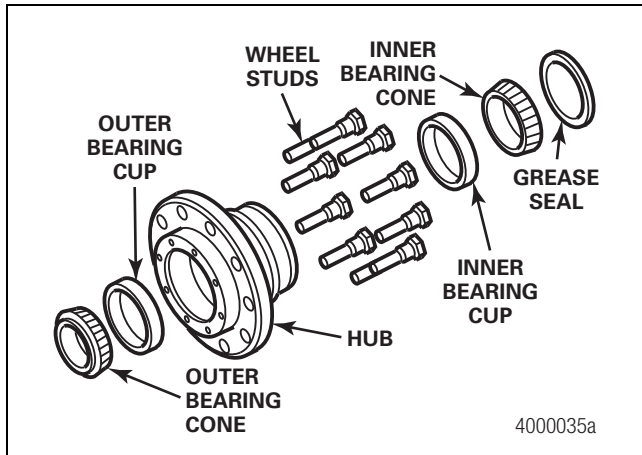

Figure 3.10
2. Remove the grease seal from the hub with a suitable tool. Discard the grease seal. Figure 3.10.
4. Remove the inner bearing cone from the hub. Figure 3.10.
5. Remove the inner and outer bearing cups from the hub with a press and sleeve or a bearing puller. Figure 3.10.